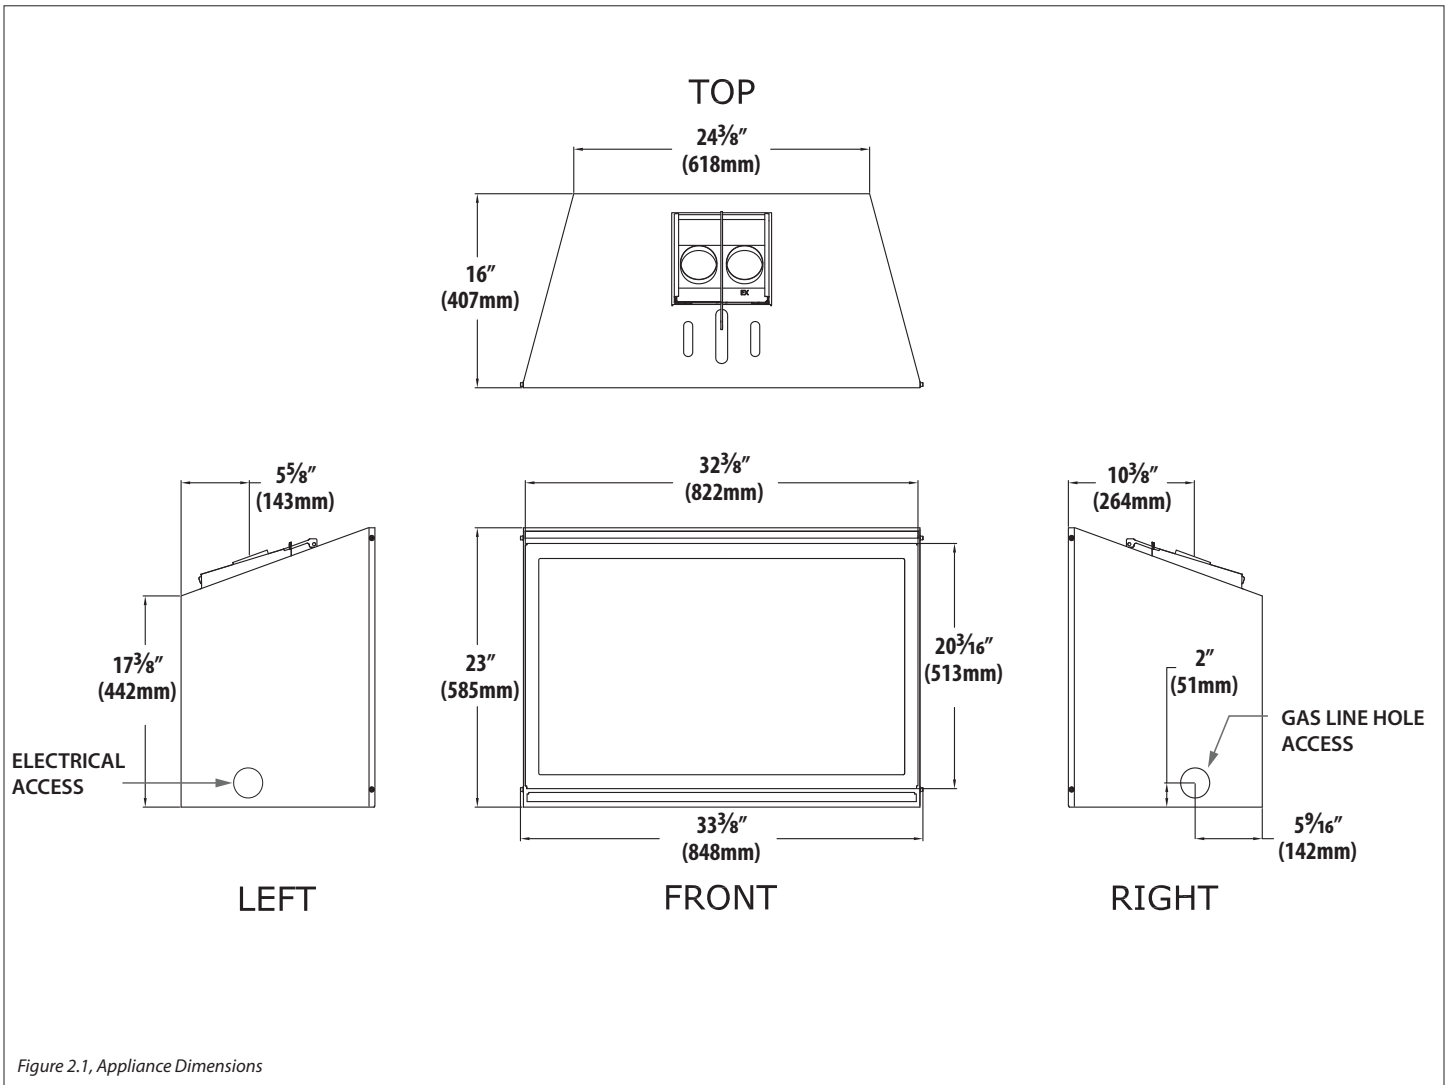

Figure 2.1, Appliance Dimensions
- A gas line must be able to be installed to the fireplace insert. Please refer to Figure 2.1 on page 9. The gas line access hole is located on the right side of the insert.
- (A) Height23-1/2" (597mm)
- (B) Front Width33-1/2" (851mm)
- (C) Depth16-3/8" (419mm)
- (D) Back Width24-1/2" (622mm)